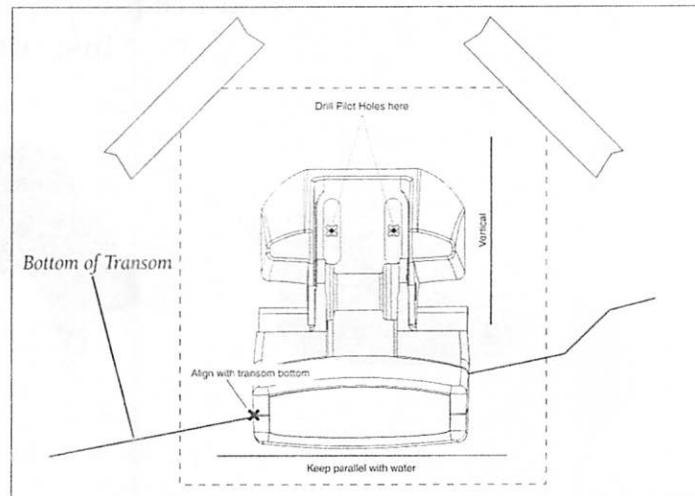

Figure 3
2. Position the template at the selected location making sure the mark on the template is aligned with the bottom of the transom, and the template is positioned vertically. Tape the template in place (see Figure 3).